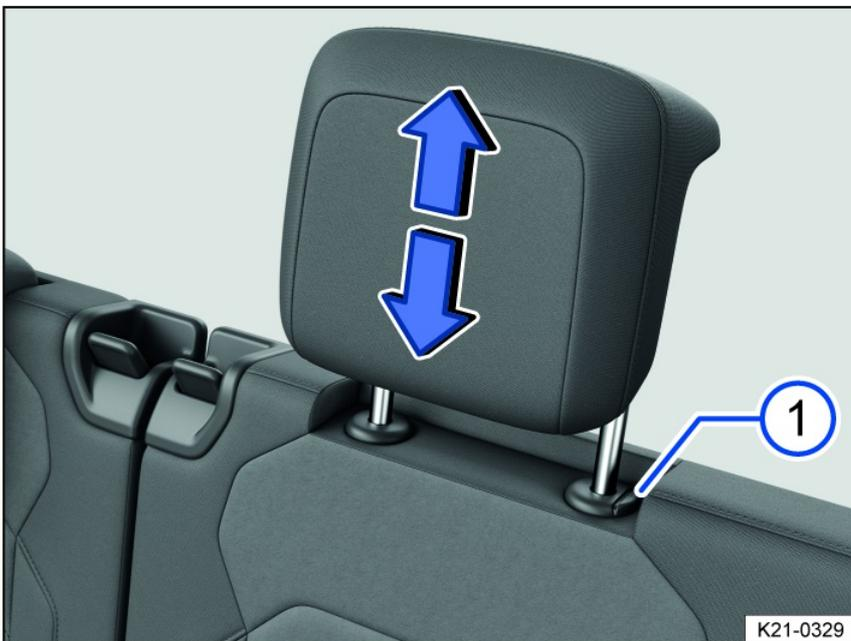
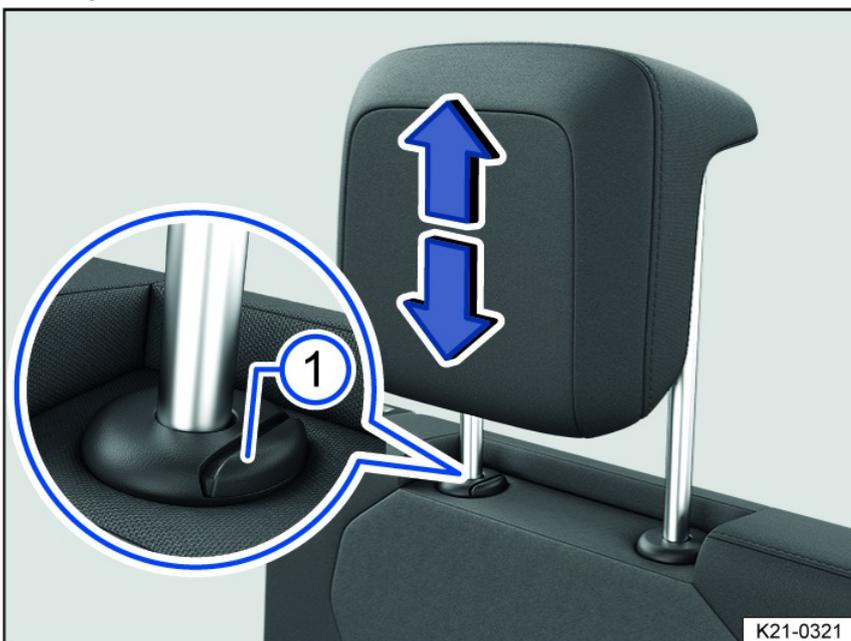

Fig. 86 General example: removing the head restraint on the second-row seats.
Fig. 87 General example: removing the head restraint on the third-row seats.
3. Pull the head restraint all the way out while pressing the *fig. 86* button.
4. Pull the head restraint all the way out while pressing the *fig. 87* button.
3. Push the head restraint downward while pressing the *fig. 86* or *fig. 87* button.